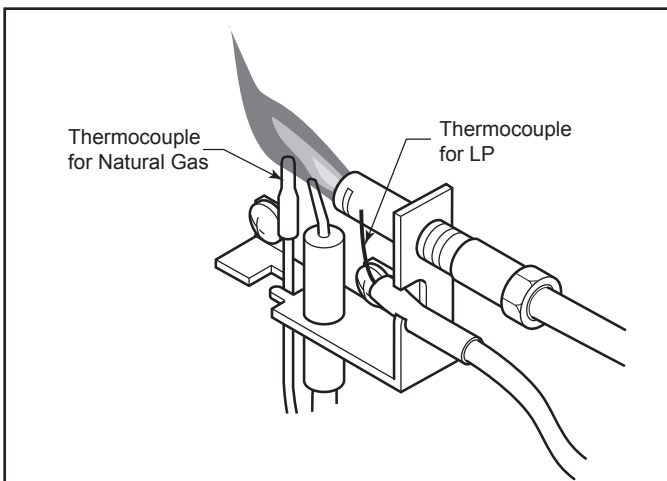

Figure 10.1 Correct Pilot Flame Appearance
- Inspect pilot flame pattern and strength. See Figure 10.1 and 10.2 for proper pilot flame pattern. Clean or replace orifice spud as necessary.